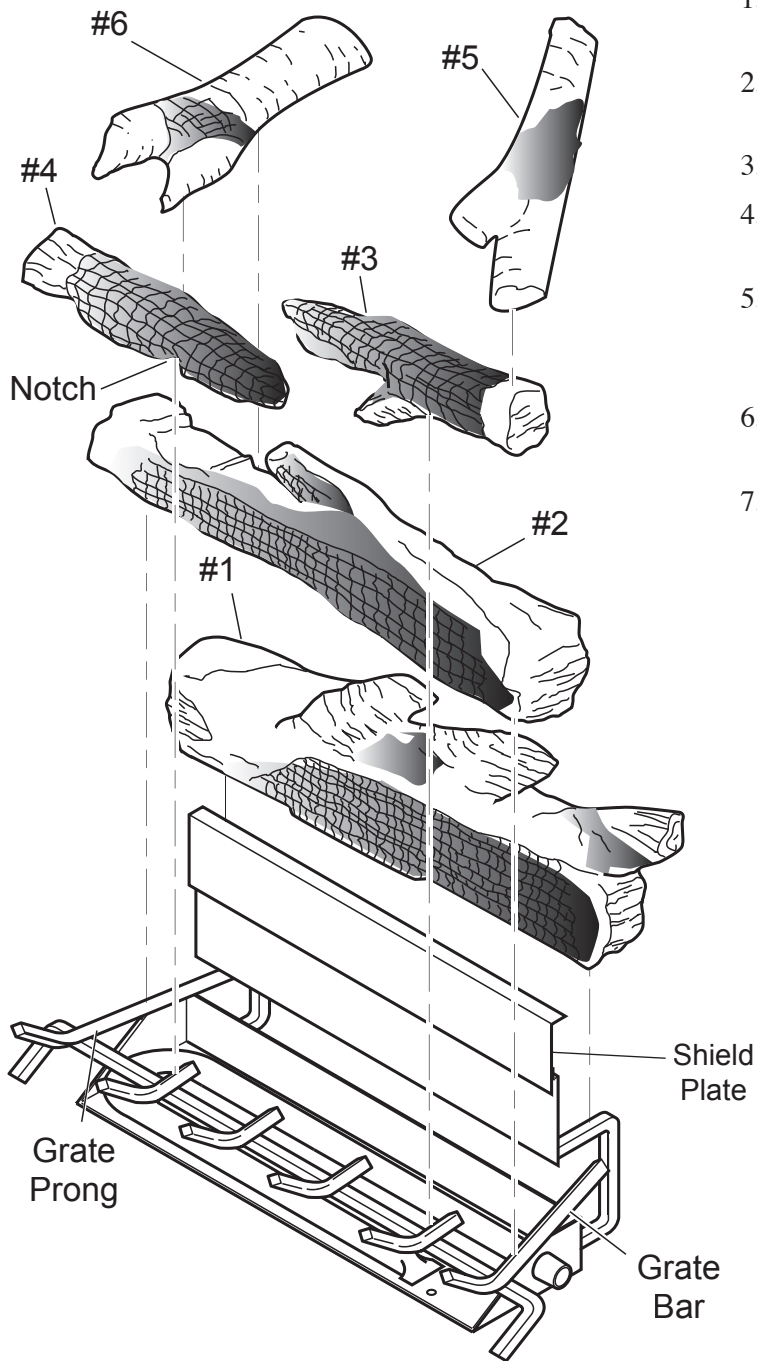

Figure 20 - VWF24B (Birch) Log Placement
4. Place center front log #3 on middle grate prong. See Figure 20.
1. Slide shield plate down back of burner pan. See Figure 20.
2. Place Back Log #1 on grate bars on back of grate. See Figure 20.
3. Place Middle Log #2 in front of Log #1. See Figure 20.
4. Position Right Front Log #3 on right front side of grate. See Figure 20.
5. Position Left Front Log #4 on left front side of grate. Make sure notch in bottom of log sits on grate prong. See Figure 20.
6. Rest Top Right Log #5 across top right sides of Log #1 and Log #2. See Figure 20.
7. Rest Top Left Log #6 across top left side of Log #1 and Log #2. See Figure 20.